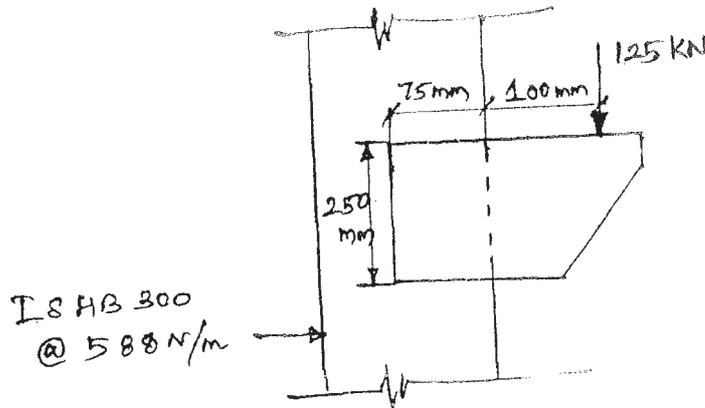

Figure 1
11. (i) A bracket plate is welded to the flange of a column as shown in Figure 1. Design the connection. (12)